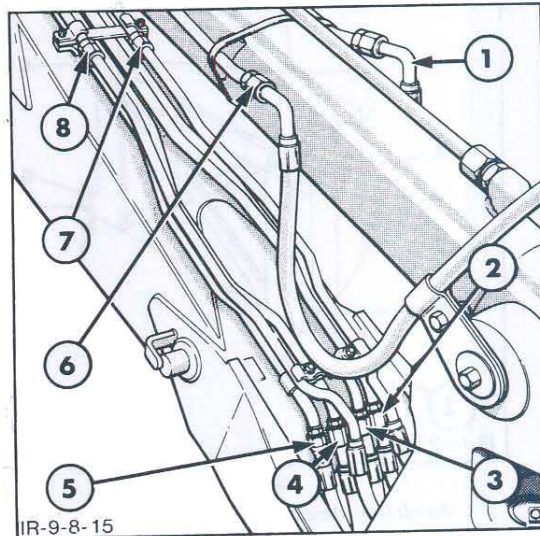

Figure 16
4. Disconnect the lift cylinder hoses, Figure 16. Cap the hoses and cylinder ports.
5. Identify and disconnect the hoses from the crowd and bucket cylinder tubes and extendible dipstick cylinder (where fitted). Figure 16. Cap the hoses and tubes.